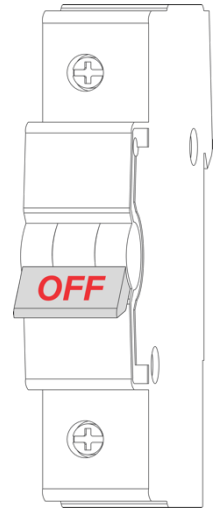
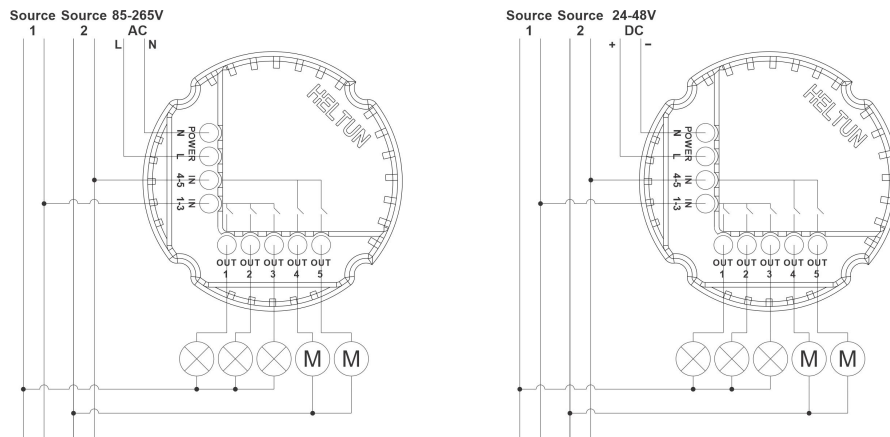

Figure 1: Circuit Breaker
Figure 2: Connection Diagrams
3. FIRST ENSURE THE POWER IS OFF at the main circuit breaker (Fig. 1), and then test the wires with a probe or multimeter to verify. Insert the power wires to the HE-TPS05 "POWER" terminal by inserting a small Phillips-head screwdriver in the slot beneath each terminal and unscrew to open. Follow Fig. 2: Connection Diagram and instructions below:
- **Power wires:** for AC power (85-265VAC) connect Line & Neutral wires to L & N terminals labeled "POWER" (Fig 2. left diagram). For DC power (24-48VDC) connect "+" wire to terminal N and "-" wire to terminal L (Fig 2. right diagram).